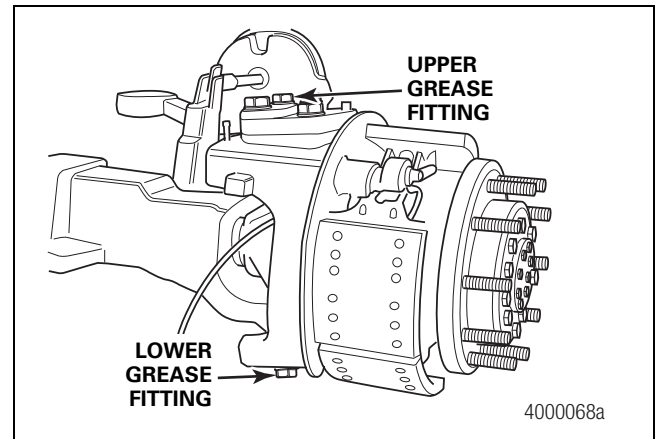

Figure 5.26
3. Lube the knuckle sockets through the grease fittings on the top and bottom knuckle caps. Figure 5.26.